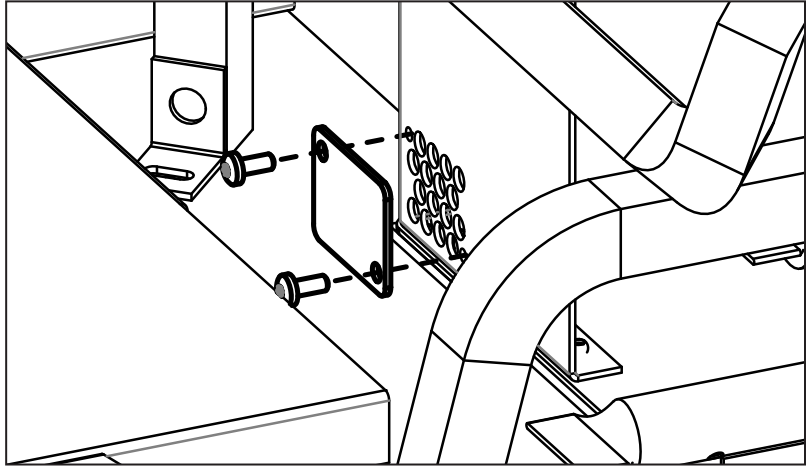

Figure 21: Burner Conversion 5" x 8" Venting
4. Near the rear of the burner box, there are two small cover plates (one on each side). Remove the two (2) T-20 screws securing each of the cover plates onto the burner box (see Figure 21). This provides more air to the burner and makes a difference when using 5" x 8" venting.